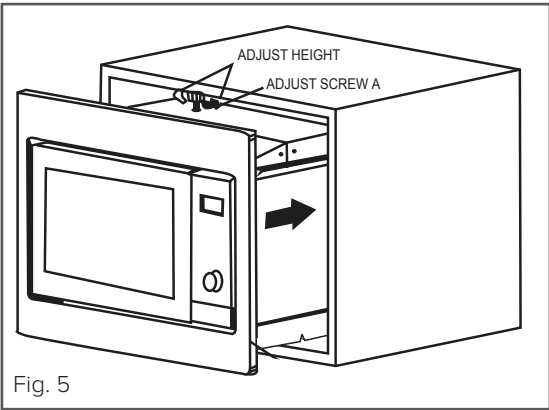

Fig. 5
- Reach to the back left of the appliance top and adjust the adjustment screw (“A” in Fig. 5) so that it reaches the underside of the shelf above the appliance.